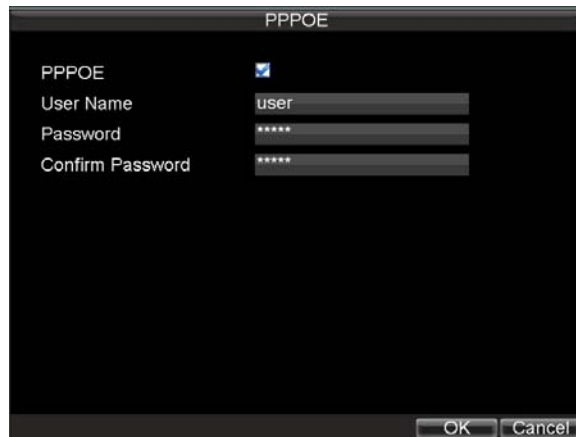

Figure5. PPPoE Settings
4. Click the *Set* button next to **PPPoE** to enter PPPoE Settings menu, shown in Figure 5.